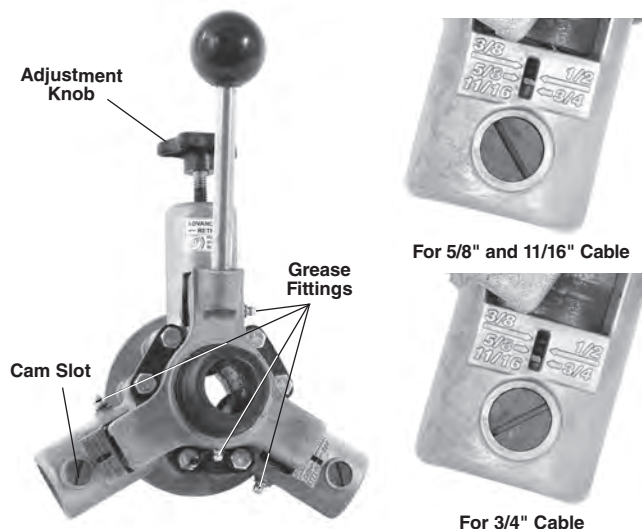

Figure 9 – Checking AUTOFEED Unit Setting
with. The setting of the unit can be checked by looking at the front of the unit, see *Figure 9*. The slot aligns with the cable size.
2. Use a flat blade screwdriver in cam slot to rotate both cams (see *Figure 9*). If using $\frac{1}{16}$ " cable, use the $\frac{5}{8}$ " setting.
5. If machine is equipped with an AUTOFEED unit, confirm that it is set to proper size for the cable being used (see *Figure 9*).